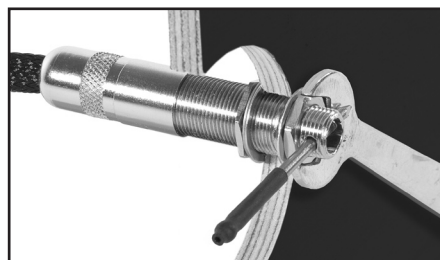

Figure 15d – Tighten the jack
8. Place the 12mm wrench on the retaining nut. Insert the jack-tightening pin through the cross-drilled hole in the threads of the jack. Hold the jack in position with the pin and use the 12mm wrench to firmly tighten the retaining nut (*see figure 15d*).